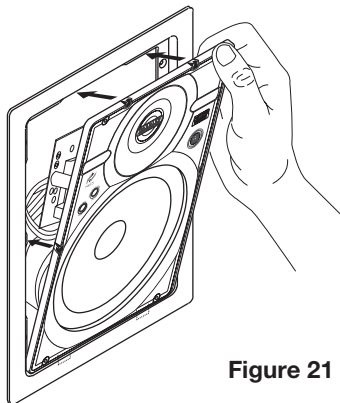

Figure 21
5. Place the speaker baffle in the frame by installing the legs in the corresponding holes in the frame and tilting the speaker forward until the snaps engage (See Figure 21).